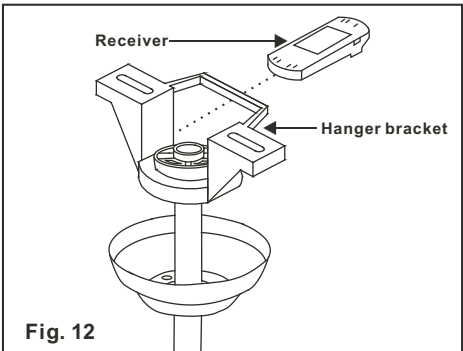

Fig. 12
**Step 1.** Insert Receiver into Hanger Bracket with the flat side of the Receiver facing the ceiling. (Fig. 12)